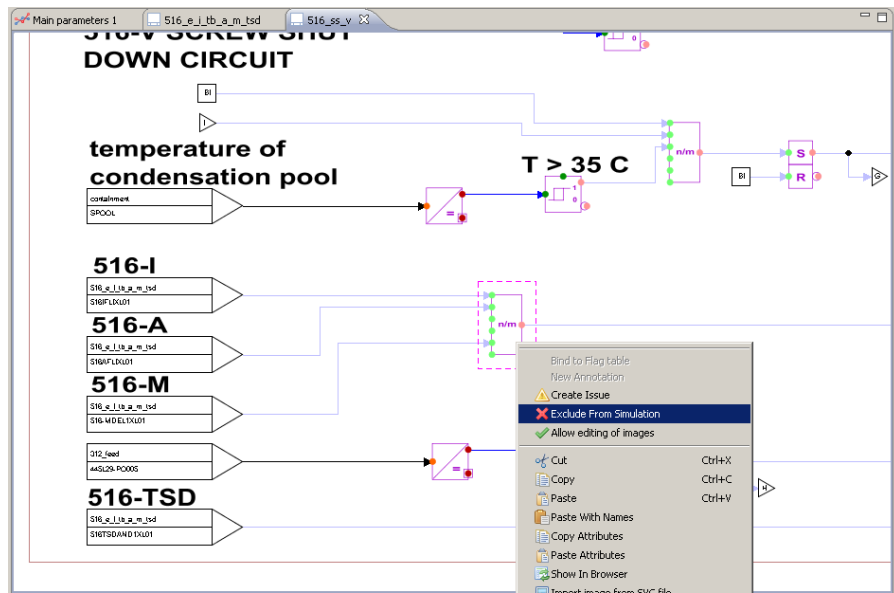

Figure 3. Excluding the n/m selector component in diagram "516_ss_v" from simulation
6. Prepare for the scenario by preventing signals 516-A, 516-I and 516-M to cause reactor scram. To do so go to the "516_ss_v" diagram and exclude the n/m selector component 516SS12CH1 from simulation (see Figure 3).